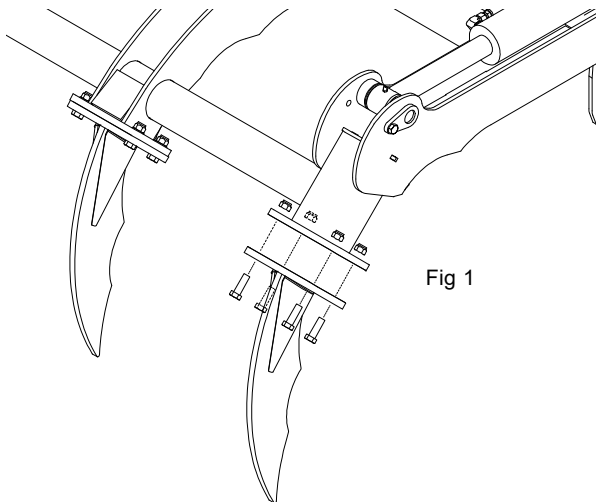

Fig 1
4. If any of the grapple teeth are bent and need replacing, remove the 4 X M12x35 long bolts. Repair or replace the tooth and tighten the bolts to 77Nm torque (Shown in Fig 1).